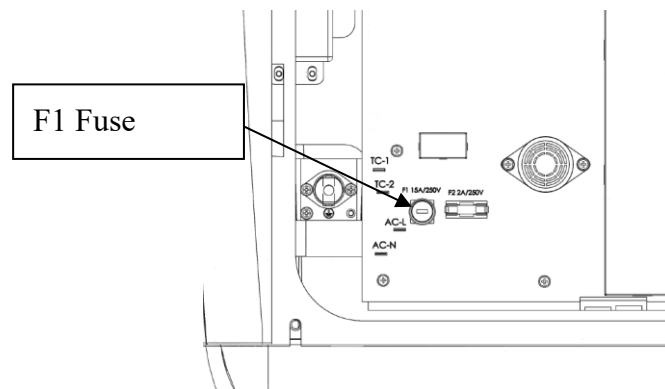

Figure 18 – F1 Fuse Holder (Old Style)
- a. Older models will have a plastic fuse holder (See Figure 18).